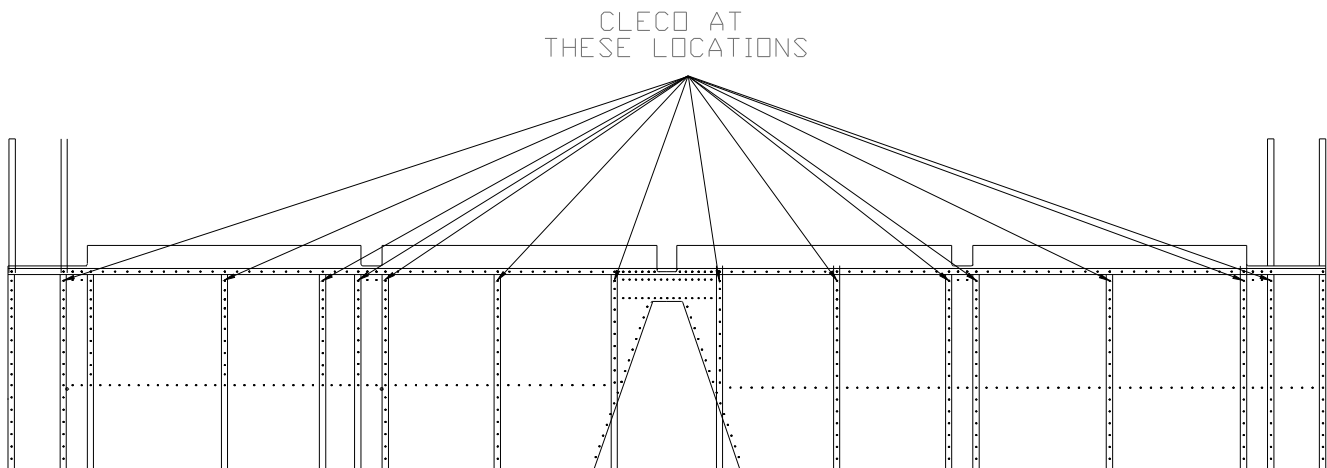

Figure 3.3.1
1) Take the Elevator Skin (EL0310) and cleco it to the spar assembly using the guide holes in the Elev/Rud Ribs that correspond to the Skin. **NOTE:** Allow the opposite side of the skin to over hang the table. Figure 3.3.1.